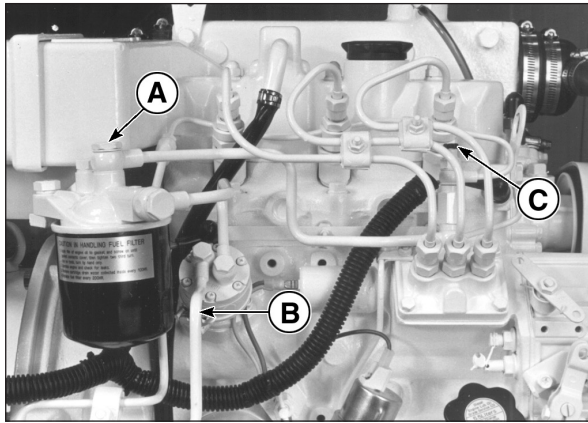

Figure 11: Fuel System.
2. Loosen bleed bolt "A" (Figure 11) on top of the filter. Pump hand primer "B" on fuel lift pump until pure fuel (no bubbles) escapes from bleed bolt "A". Tighten bleed screw "A".